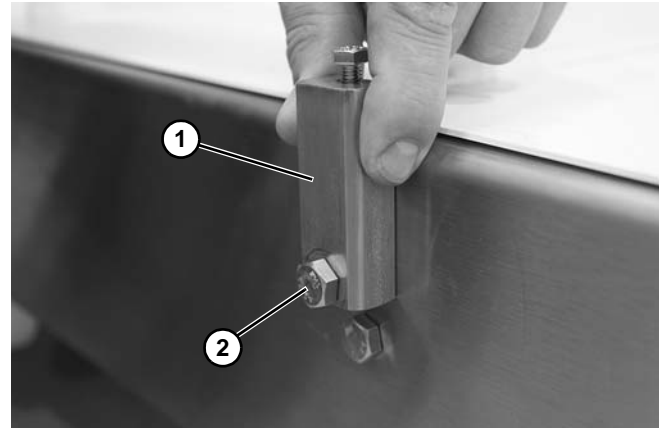

Figure 29
2. Assemble the mounting block (Figure 29, item 1) to the conveyor side with the screw (Figure 29, item 2) provided.